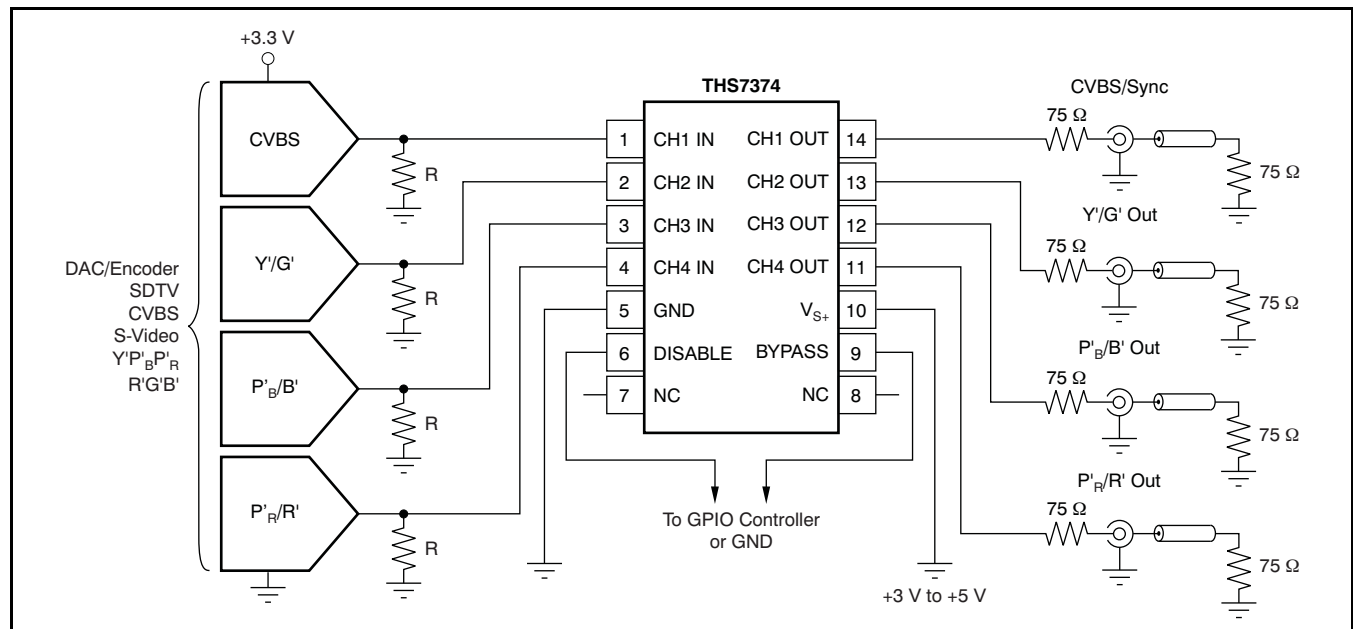

Figure 36. Typical SDTV CVBS/ $Y'P'_BP'_R$ Inputs from DC-Coupled Encoder/DAC with DC-Coupled Line Driving
A typical application circuit that uses the THS7374 as a video buffer is shown in Figure 36. It shows a DAC or encoder driving the input channels of the THS7374. One channel is a composite video (CVBS) channel of a standard definition (SD) video system. The other channels are the component video $Y'P'_BP'_R$ (sometimes labeled $Y'U'V'$ or incorrectly labeled $Y'C'_B'C'_R$) signals of a 480i or 576i system. These channels could easily be the s-video Y'/C' channels or the $R'G'B'$ channels of a SCART system.